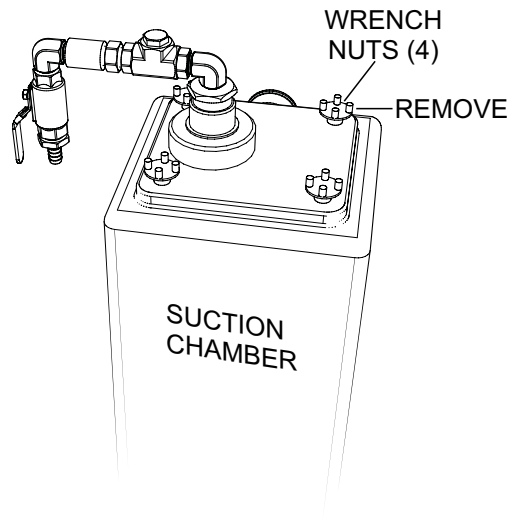

Figure 44. Wrench Nut Removal
1. Remove the 4 wrench nuts (Figure 44) from the top of the suction chamber.